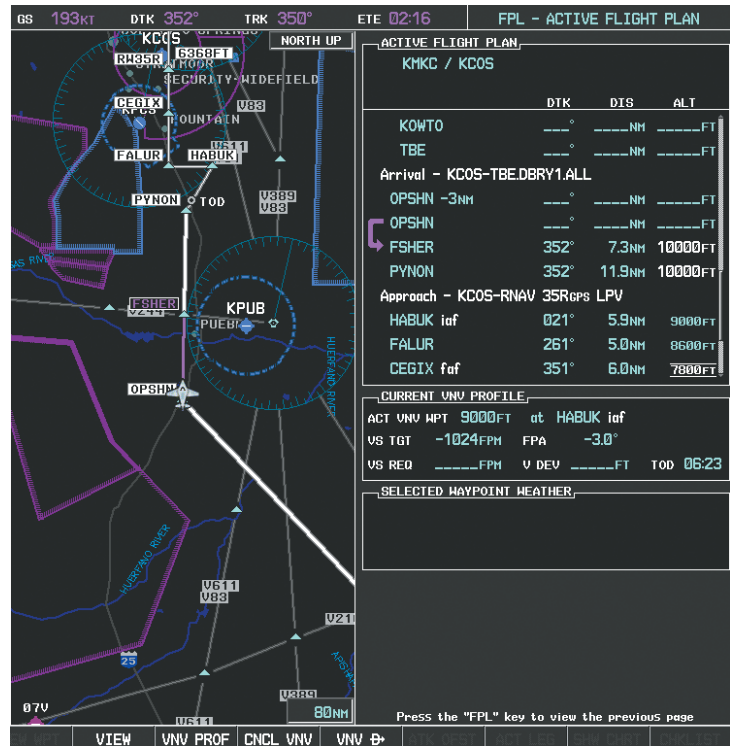

Figure 5-139 Tracking the OPSHN to FSHER Leg
- 19) After passing OPSHN, the next leg of the arrival turns magenta as shown in Figure 5-139. The magenta arrow in the flight plan list now indicates the OPSHN to FSHER leg of the arrival procedure is now active.